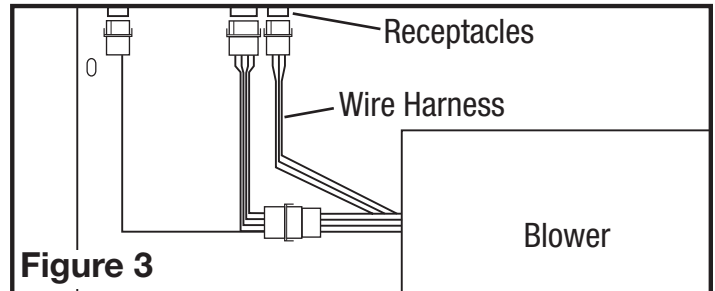

Figure 3
4. Plug the 2, 3 wire and 4 wire quick connect cords from the blower into the appropriate receptacles located on the inside front of the hood canopy. These cords will only fit into the receptacles one way (**Figure 3**).
5. Plug both the 3 wire and 4 wire quick connect cords from the blower into the appropriate receptacles located on the inside front of the hood canopy. These cords will only fit into the receptacles one way (**Figure 3**).